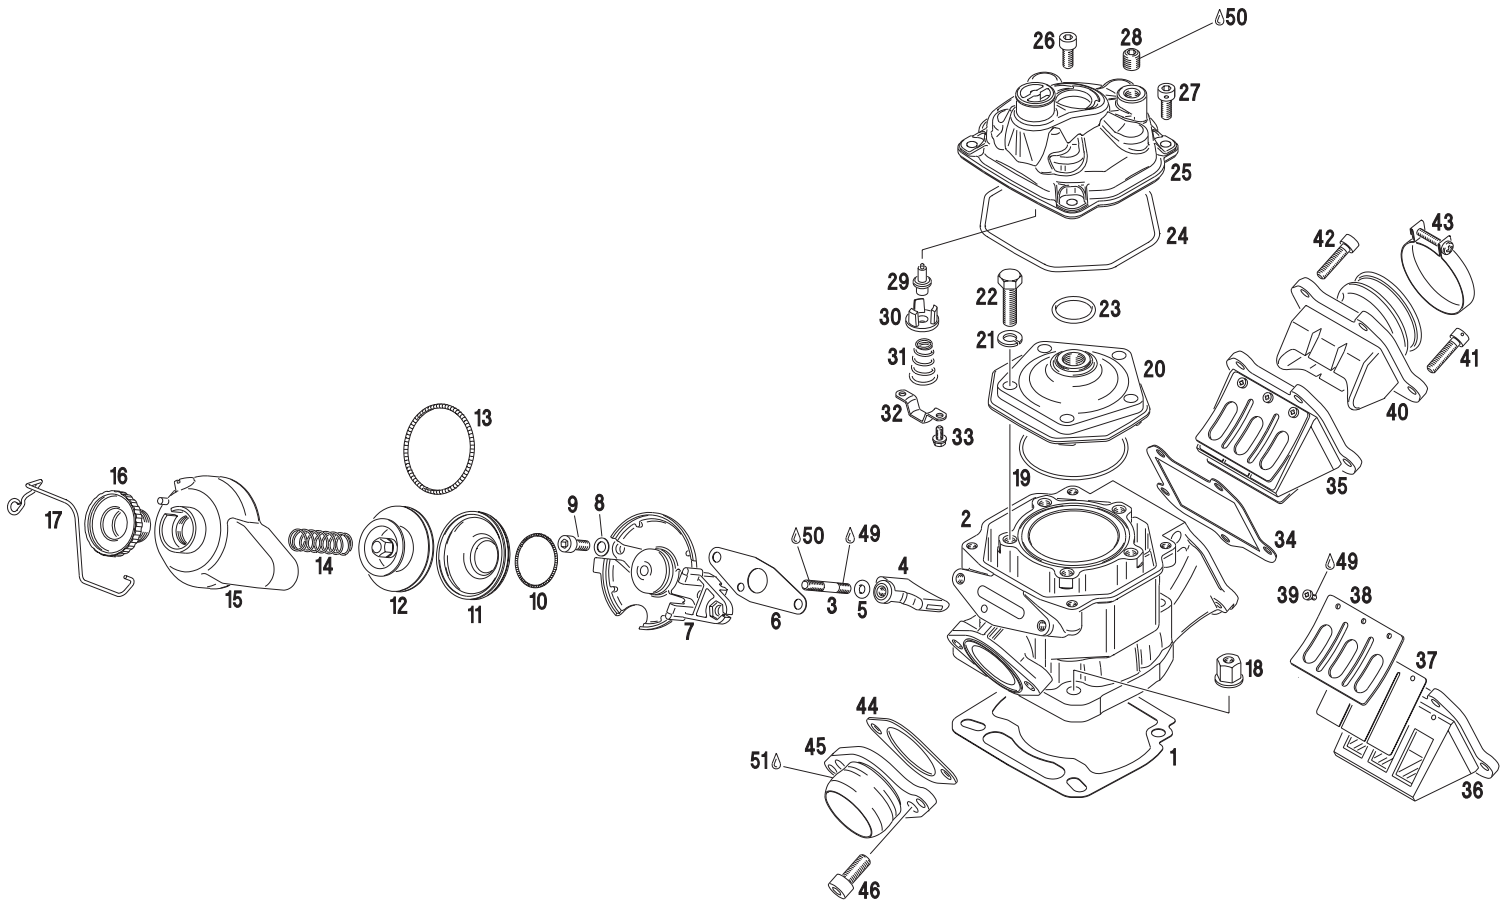

Fig. 22
- ◆ **Note:** In the basic setting, the adjustment screw (item 16) is turned in so far that it is flush with the valve cover (item 15, fig. 22). This setting is in most cases the best.
- ◆ **Note:** If the exhaust valve does not open until the engine speed of 7500 r.p.m. has been reached, the opening time can be adjusted to a slightly lower speed by turning adjustment screw (item 16) outwards.